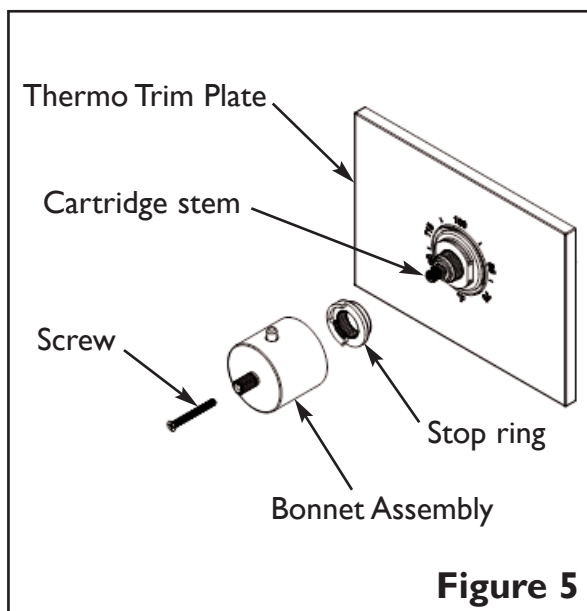

Figure 5
- Orient and position limit stop as shown in **Figure 5**.
- Place the Bonnet Assembly onto cartridge stem with red button (100°F) positioned straight up and inline with notch on the sleeve and Secure with Screw. (see **Figure 5**)